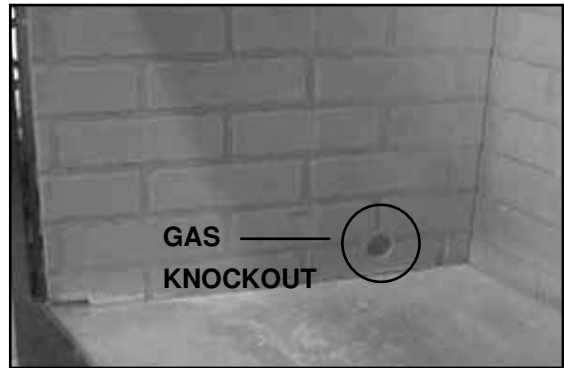

Figure 7.11 Gas Knockout
**Note:** To ensure proper installation, gas knockouts in the side refractory should be positioned towards back of fireplace. See Figure 7.11.